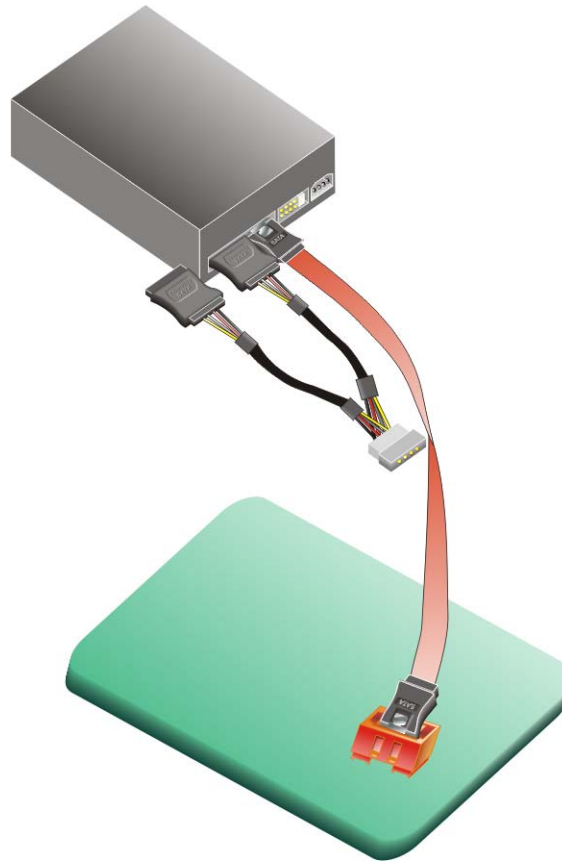

Figure 5-10: SATA Drive Connection
Step 3: Connect the connector on the other end of the cable to the connector at the back of the SATA drive (**Figure 5-10**).
Step 4: Connect the SATA power connector to the back of the SATA drive (**Figure 5-10**).